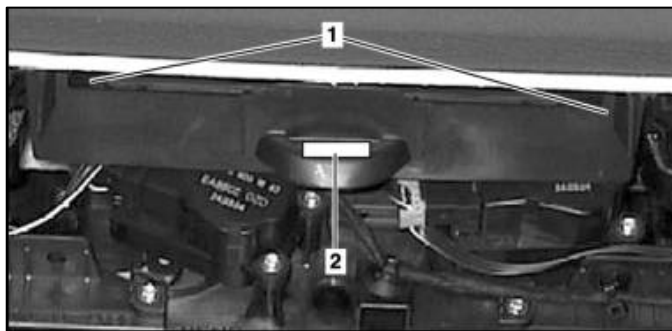

Figure 7
2. Apply felt (material thickness: 3 mm) onto retaining tab (2, Figure 7).